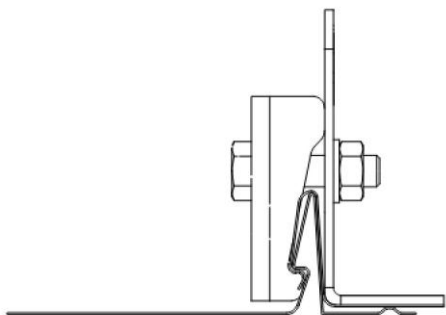

Figure 2.
- Install the L-bracket plates on the one side of the roof seam (Figure 2).
- Place the RP-bracket on the other side of the seam (Figure 2).
- Screw together using an M8x35 mm bolt screw, M8 nut, and washer (Figure 2).
- Tighten the screws such that the L-bracket plate holds firmly on the roof material (Figure 2).